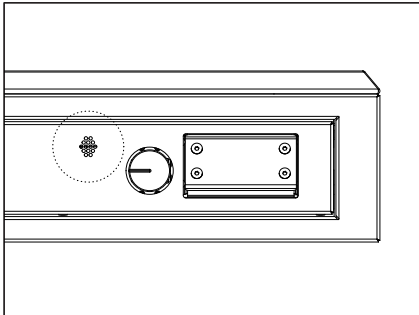

FIGURE 6
3. Keep HOLD of the panel and LOOK through view hole (figure 6) for flame. Repeat step 2 until lit.